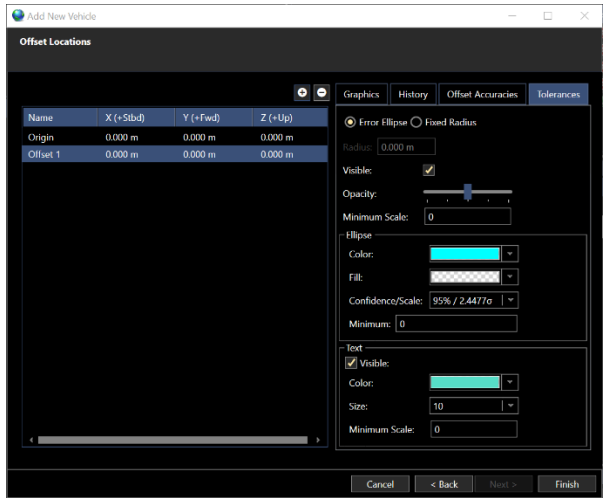

FIGURE 7-21 VEHICLES - NEW VEHICLE WIZARD - OFFSET LOCATIONS PAGE - TOLERANCES TAB
- g. Edit the **Tolerances** (see Figure 7-21), this controls the display in the Map views of the estimated accuracy of the offset position, either that determined through rigorous error propagation by NavView or as estimated by the user